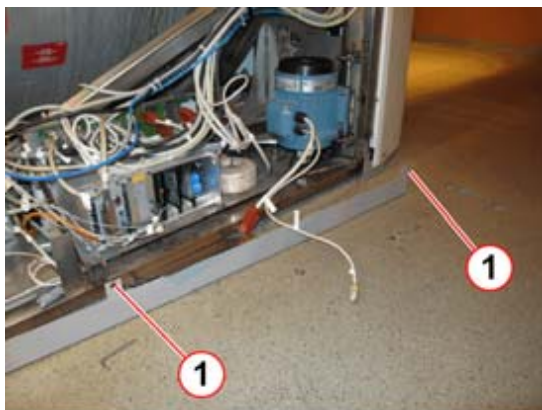

Fig. 25: Kick plate
- Remove two Allen screws of the kick plate and carefully move it slightly away to have enough space to swivel out the vertical motor (1/Fig. 25 / p. 29).